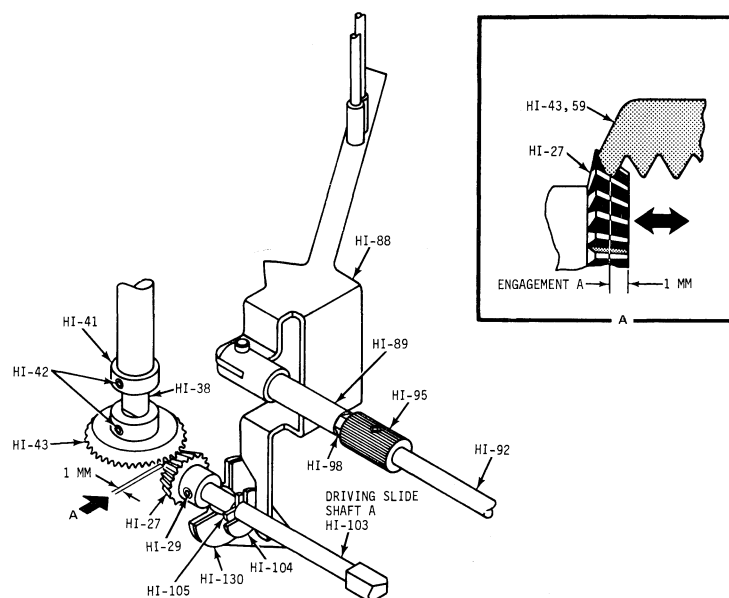
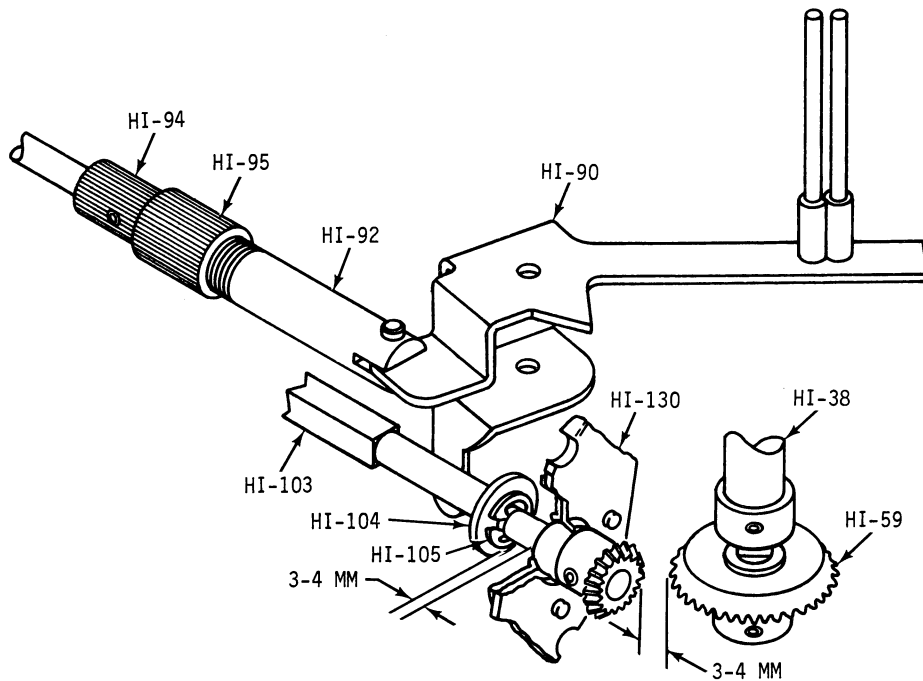
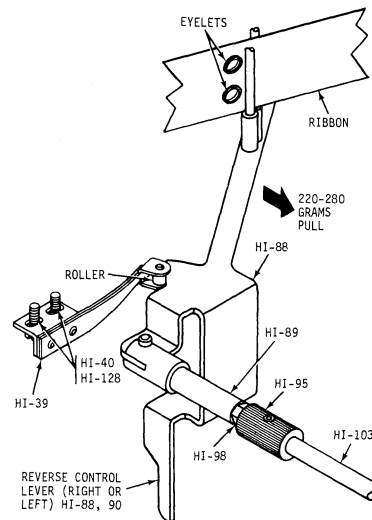

Figure 5-5. RIBBON FEED MECHANISM (REAR OF PRINTER, LEFT SIDE)
Figure 5-7. DRIVING SLIDE SHAFT A - ADJUSTMENT
Figure 5-9. RIBBON REVERSE TIMING
Above torque transmission route for the ribbon feed mechanism (left and right) is determined by position of driving slide shaft A (HI-103) (Fig. 5-7), controlled with control spring (HI-93) (Figure 5-9), reverse control lever (right) (HI-88) (Figure 5-9), and reverse control lever (left) (HI-90) (Figure 5-7).
(Refer to Figure 5-5)
2. Adjust bevel gear (HI-27) (left side) with respect to bevel gear (HI-43) by loosening and tightening allen-head screws (HI-29) to obtain engagement A of approximately one millimeter (0.039-in.). See Fig. 5-5, and View A
When engagement A (Figure 5-5) has been properly adjusted between gears (HI-27) with respect to bevel gears (HI-43, 59), adjust bevel gears (HI-43, 59) alternately to obtain correct backlash operation of gears in the following manner:
1. When engagement A and B of bevel gears has been made (Figure 5-5, 5-6), one snap ring (HI-105) always contacts support bushing (HI-130); the distance between other snap ring (HI-105) and the support bushing (HI-130) on shaft (HI-103) is 3 to 4 millimeters (0.12-0.16-in.). (See Figure 5-7). Note that distance between bevel gear (HI-59) and bevel gear (HI-27) is also 3-4 mm.
2. When bushings and holders (HI-133, 130) on left and right side of printer are installed, the driving slide shaft A (HI-103) should move freely and travel an overall distance of 3.0 to 4.0 millimeters (0.12 -0.16-in.) when engaged alternately in either direction with bevel gears (HI-27, 43) or (HI-27, 59). (See Fig. 5-7)
E. Control Spring (HI-39) - Ribbon Reverse Timing (See Fig. 5-9)
1. When reverse control lever (HI-88) turns left by moving ribbon reversing shaft (HI-92) to left, and if Engagement A (Fig. 5-5) between bevel gear (HI-27) and bevel gear left (HI-43) is decreased to approximately 1.0 mm (0.039-in.), adjust position of control spring (HI-39) by loosening screws (HI-40) and flat washers (HI-123) to just pass roller mounted on control spring (HI-39), (located underneath left ribbon spool shaft (HI-38) over top of ramp of reverse control lever (left) (HI-88). Note, that both ribbon spools will rotate freely when driving slide shaft A (HI-103) is in neutral position (top of ramp).
2. When ribbon of spool (empty condition) containing eyelets (or small plate) is blocked by ribbon guides (part of HI-88, 90) a pull of 220-280 grams (7.7 oz - 9.8 oz) is exerted on the reverse control levers (either left or right), which reverses the ribbon movement. (See Figure 5-9)
Both bevel gear (HI-27) and bevel gear (right and left) (HI-42, 59) should be timed so that they engage together after roller, mounted on control spring, passes over top of ramp of reverse control lever (HI-88). (Fig. 5-9)